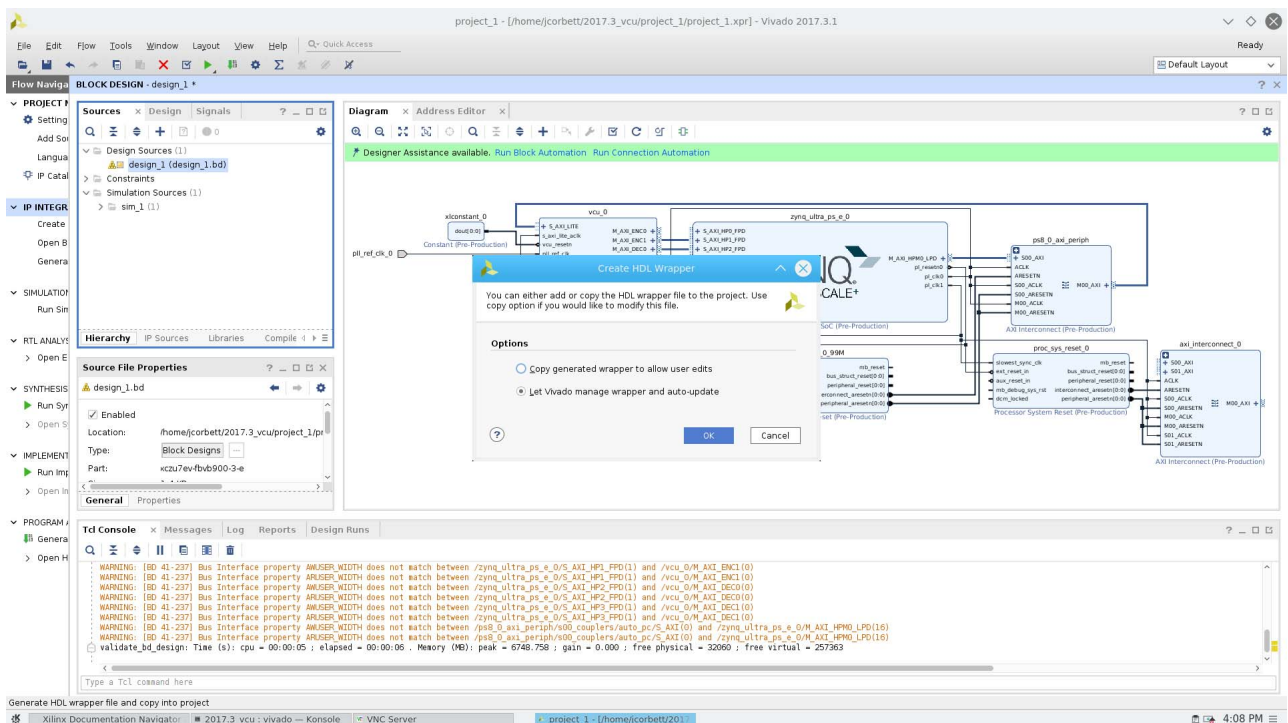

Figure 11-17: Create HDL Wrapper
23. Create a top-level Vivado wrapper by right-clicking on Block Design and selecting **Create HDL Wrapper** option as shown in Figure 11-17.